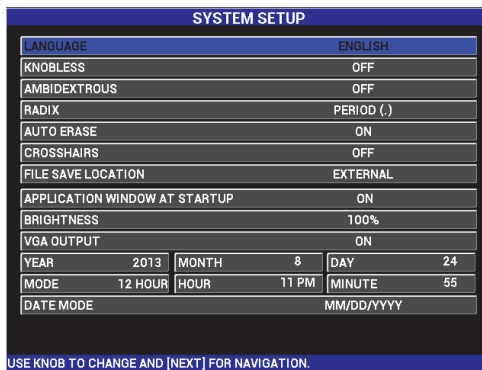

Figure 3-1 The SYSTEM SETUP screen
1. Press the ADV SETUP menu key () twice, and then press the B key to access the **SYSTEM SETUP** screen (see Figure 3-1 on page 69).
3. In the **SYSTEMS SETUP** screen (see Figure 3-1 on page 69), use the FULL NEXT key () to highlight the desired parameter and then use the knob to change its value: